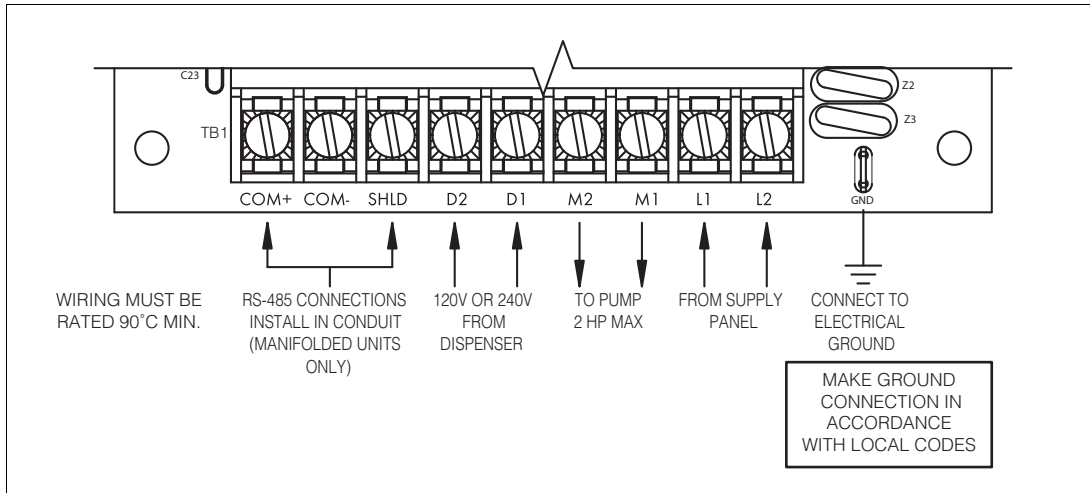

Figure 2. -058, 059
5. Motor leads M1 and M2 should be terminated to the M1 and M2 terminals on TB1. The M3 lead for models -058 and -059 should terminate to the splice provided lead from the capacitor in the lid (Figure 2).